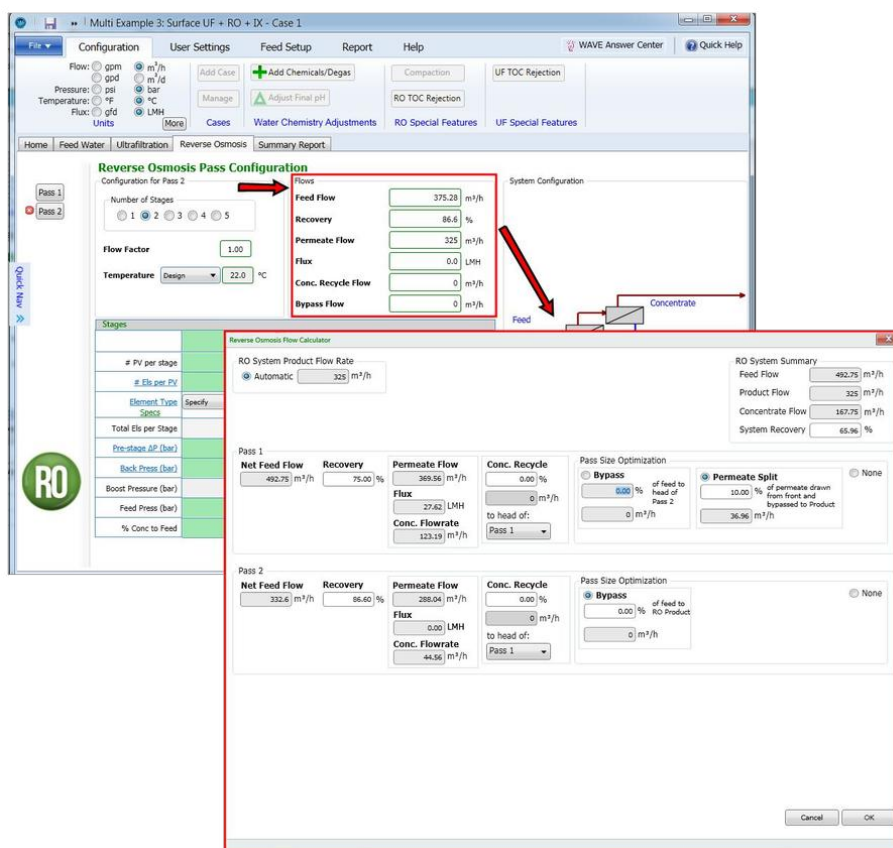
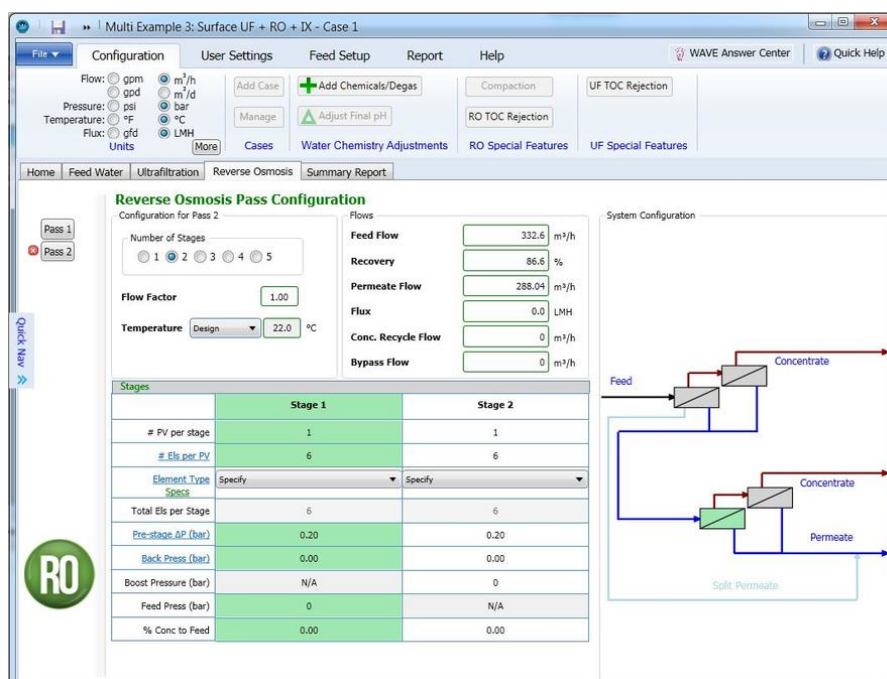

Figure 134. Specification of RO/NF/ROSC system Permeate Split
Figure 135. Plant scheme once Permeate Split is specified for RO/NF/ROSC system
WAVE allows the user to take permeate from intermediate points along the pressure vessel containing the RO/NF/ROSC elements. These intermediate points might be in between elements or sometimes partway through an element. The Permeate upstream of each intermediate point would be 'split off' and set directly to product (from that Pass) instead of being mixed with the Permeate streams coming from elements further downstream. The Split Permeate amount can be specified in WAVE as follows (and shown in Figure 134 and Figure 135):
2. Click on any entry field in the Flow Specification area (shown in Figure 134). The Flow Calculator Pop-up Window will appear.